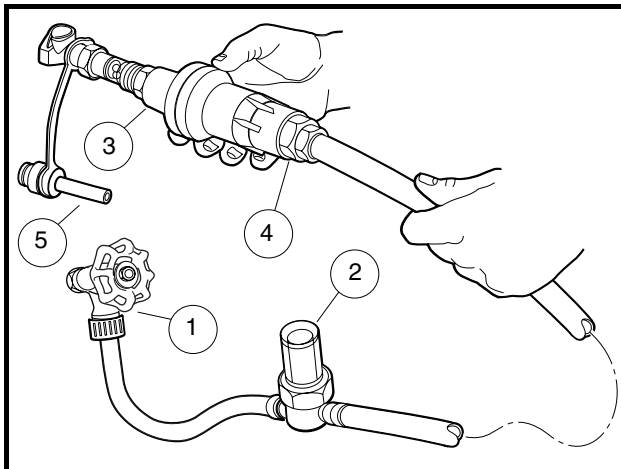

Figure 29 Connecting Hose with Filter to Water Source
1. Connect the water hose with the built-in screen filter to the water faucet (**Figure 29**). See following **CAUTION**.
2. Before screwing the hose-end assembly onto the opposite end of the water hose, check the screen filter inside the end of the assembly to make sure it is clean (**Figure 29**).